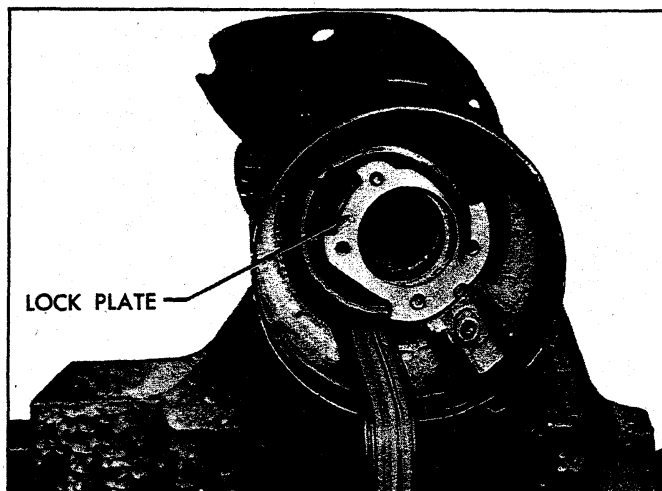

Fig. 44—Lockplate Installed
23. Remove lockplate (fig. 44) by sliding out of jacket notches. Tip plate down toward bowl hub and slide out from under top edge of jacket opening. Remove wave washer.